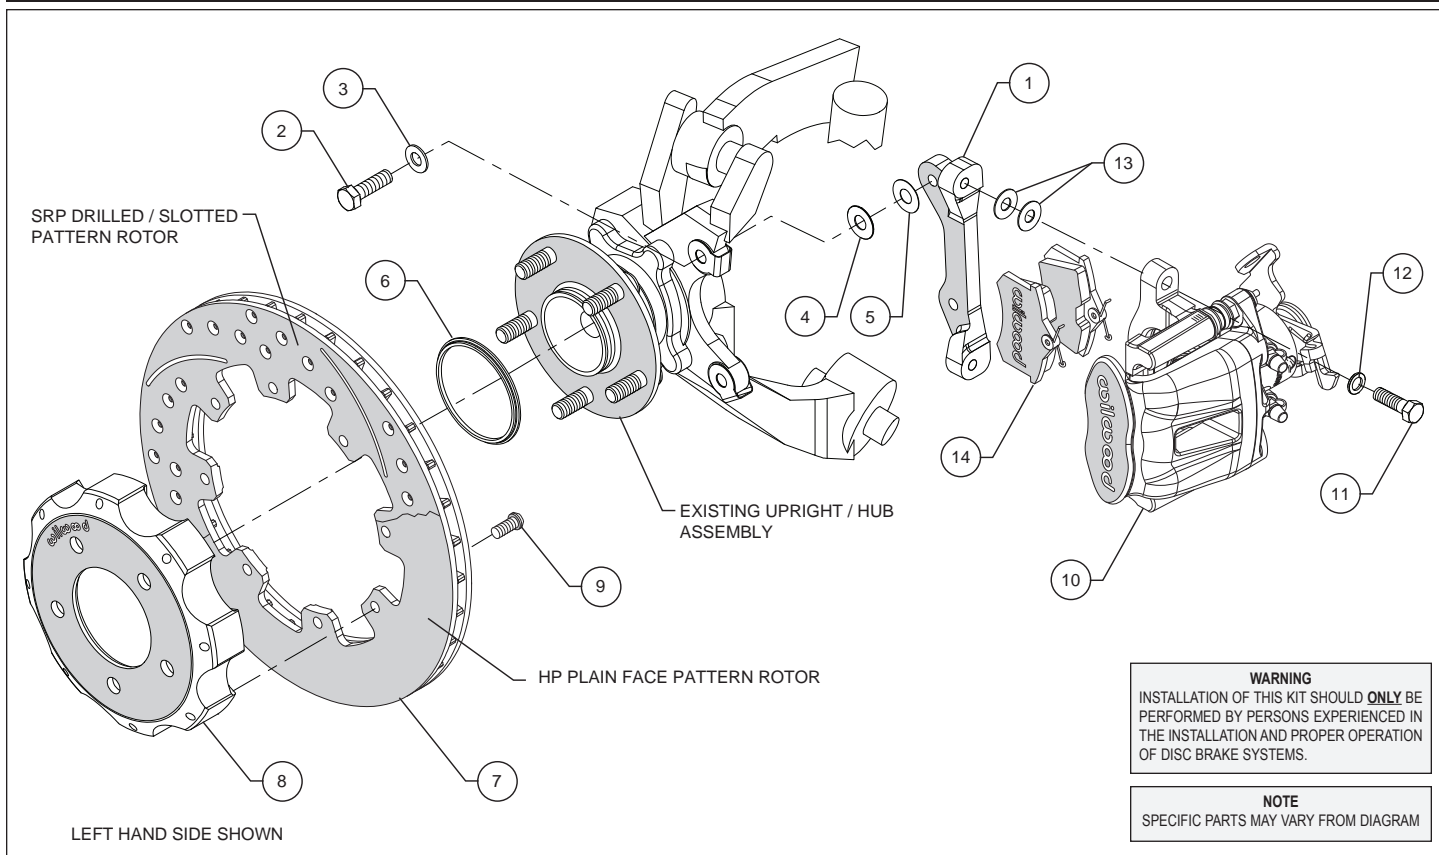

Figure 1. Typical Installation Configuration
- The caliper mount bracket (1) should initially be installed with clean, dry threads on the mounting bolts. Orient the bracket as shown in Figure 1, and install using mounting bolts (2) and washers (3). Initially place one each .016" thick shim (4), and .030" thick shim (5) on each bolt between the bracket and upright, Figure 1. Temporarily tighten the mounting bolts. **NOTE:** The bracket must fit squarely against the mount bosses on the upright. Inspect for interference from casting irregularities, machining ridges, burrs, etc. Later, after the caliper alignment has been checked, the mount bolts will be secured using red *Loctite*® 271.
- Orient the rotor (7) and the hat (8) as shown in Figure 1 and Photo 1. Attach rotor to hat using bolts (9). Using an alternating sequence, apply red *Loctite*® 271 to the threads, and torque to 25 ft-lb.
- Slide the rotor registration adapter (6) onto the axle register on the axle hub with the smaller O.D. facing outward, Photo 2. Slide the hat/rotor assembly onto the axle hub. **NOTE:** The hat must fit flush against the axle hub flange or excessive rotor run out may result. Install three lug nuts (finger tight) to keep the hat/rotor assembly in place while continuing with the installation.
- Slide the brake pads (14) up into the caliper (10) from the bottom with the friction material facing the rotor until the "v" spring clip snaps into place against the anvil, as shown in Figure 1 and Photo 3. They should install easily without interference.
- Mount the caliper (10) onto the mounting bracket (1) using bolts (11) and washers (12), as shown in Figure 1 and Photo 4. Initially place two .035" thick shims (13) on each bolt between the caliper and the bracket. Temporarily tighten the mounting bolts and view the rotor (7) through the top opening of the caliper. The rotor should be centered in the caliper, Photo 5. If not, adjust by adding or subtracting .016" shims (4) and/or .030" shims (5) between the caliper mounting bracket and the upright to center the caliper on the rotor. Always use the same amount of shims on each of the two mounting bolts. Once the caliper alignment and pad centering are correct, remove the bolts (2) one at a time, apply red *Loctite*® 271 to bolt threads, and torque to 35 ft-lb.